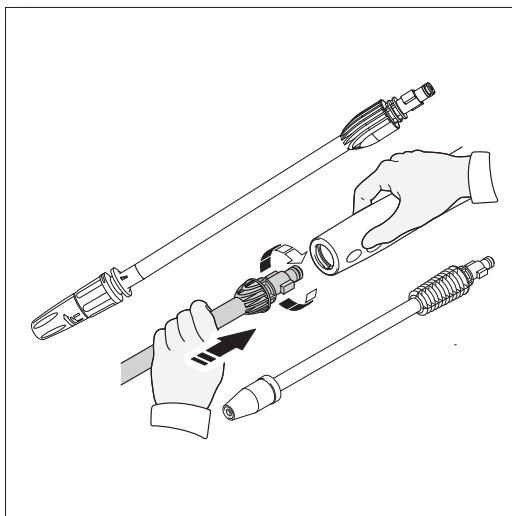

Fig. 8
- While the spray gun is in the locked position, insert the high/low nozzle lance or turbo nozzle into the end of the spray gun by inserting and pushing together turning clockwise simultaneously. To remove push together and turn counter clockwise (**Fig. 8**).